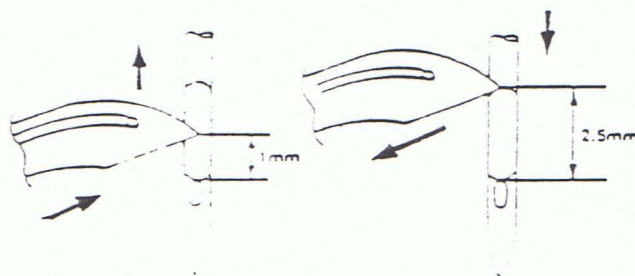

Fig. 6
- 8) Synchronization of needle and looper (Fig.6)